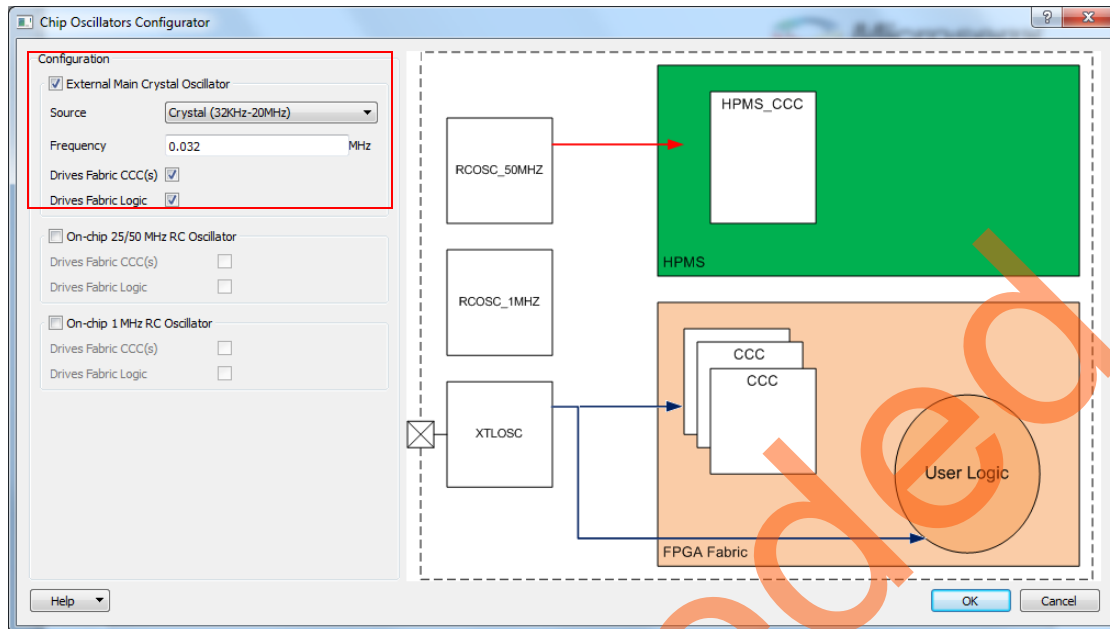

Figure 10 • Configuring Chip Oscillators
15. Double-click on the **OSC_0** component in the **SmartDesign** canvas and open the **Chip Oscillators Configurator** window, as shown in Figure 10.
16. Configure the **External Main Crystal Oscillator** to drive **FCCC** and **fabric logic**. Enter the following information (see Figure 10):